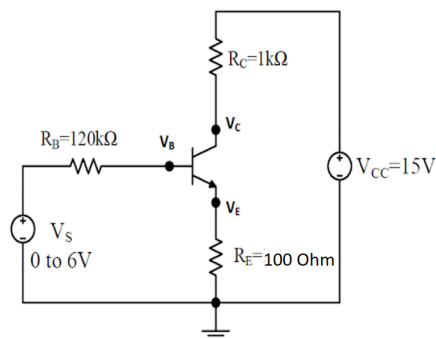

Figure 1
6. Setup the circuit given in Figure 1 in OrCAD. Use BC237 (in Zetex Library) transistor model. Plot input characteristic of the transistor (V_{BE} - I_B). You can select the analysis type as 'DC Sweep' and options as 'Primary Sweep'. Sweep input voltage (V_{BB}) from 0 to 6V in steps of 0.1V. Specify critical points on the plot and comment about your simulation result.
9. Set up the circuits given in Figure 1 and Figure 2 in TincerCAD and add the results to the report.
1. Set up the circuit in Figure 1 and measure the V_B , V_C , and V_E voltages for the V_S values given in Table 1 and write them in Table 1. Calculate the values of I_B , I_C , I_E , β , V_{BE} , V_{CE} according to the measured values and write them down in Table 2.